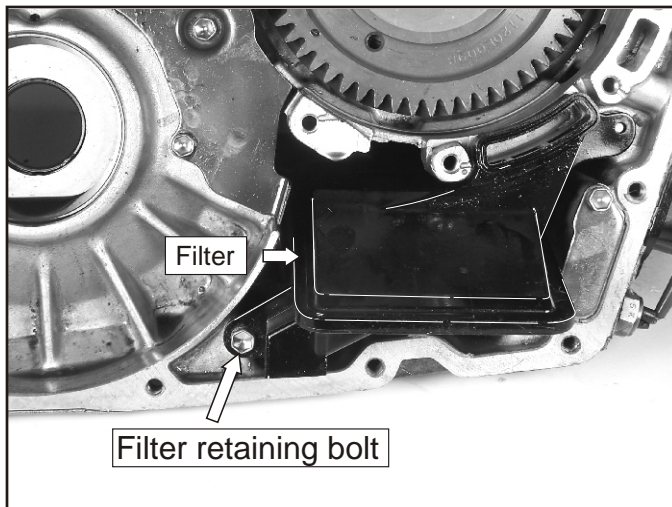

Figure 50
10. Remove the 10 mm headed filter retaining bolt, shown in Figure 50, and discard the filter.